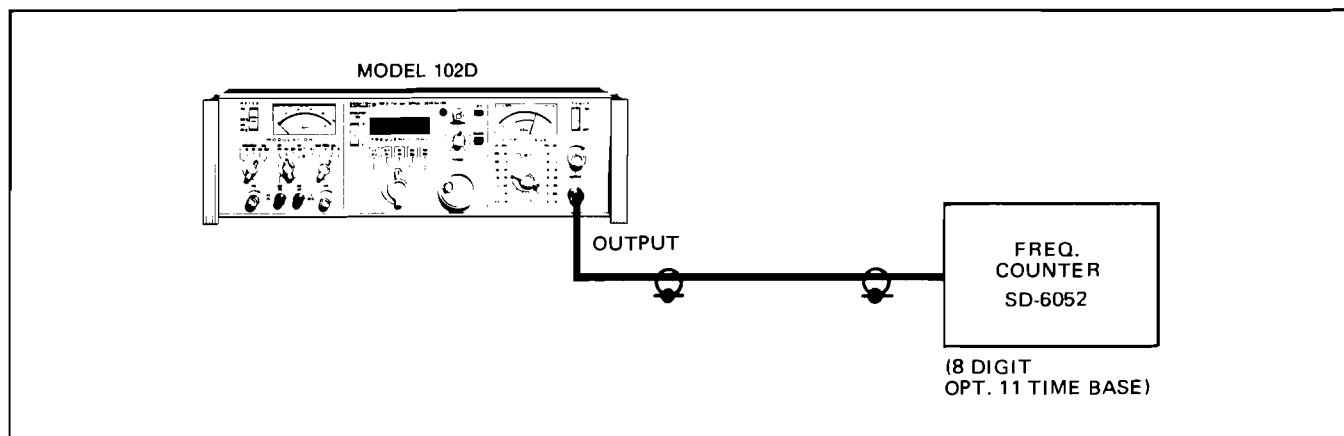

Figure 2-16 Frequency Accuracy and Locked Frequency Stability Checks, Test Setup
- a. Connect the Model 102D and test equipment as shown in Figure 2-16.